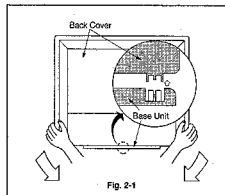
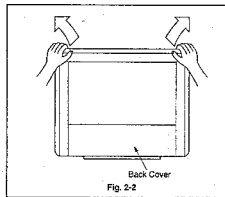

Fig. 2-1
Fig. 2-2
3. Hold the low corners of the Back Cover and release them a little (refer to Fig. 2-1). Lift the lower centre "tongue" of the back cover out of the turntable rim well (refer to Fig. 2-1). Moving around the periphery of the Back Cover (refer to Fig. 2-2) release and remove it from the Front Cabinet.
Fit the "tongue" at the bottom of the back cover into the turntable well by lifting the back cover (refer to Fig. 2-1). Now push the Back Cover carefully into place. Confirm that the Back Cover fits perfectly to the Front Cabinet with no space between the top, bottom or any sides.